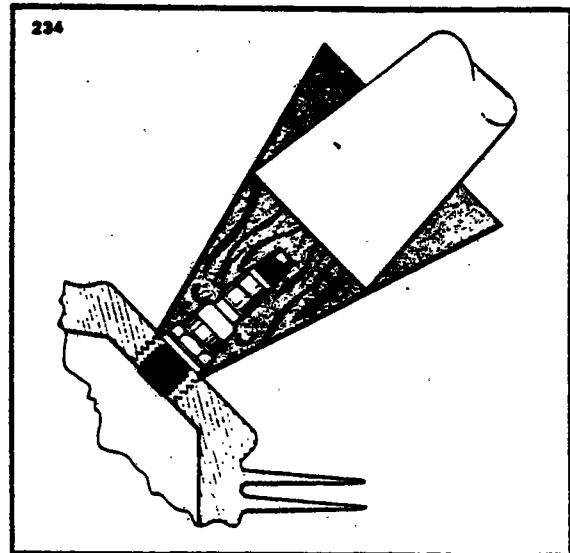

Figure 8-20. Removing Spark Plug Frozen to Bushing
- d. Removal of seized spark plugs in the cylinder may be accomplished by application of liquid carbon dioxide by a Conical metal funnel adapter with a hole at the apex just large enough to accommodate the funnel of a CO₂ bottle. (Refer to Figure 8-20.) When a seized spark plug cannot be removed by normal means, the funnel adapter is placed over and around the spark plug. Place the funnel of the CO₂ bottle inside the funnel adapter and release the carbon dioxide to chill and contract the spark plug. Break the spark plug loose with a wrench. A warm cylinder head at the time the carbon dioxide is applied will aid in the removal of an excessively seized plug.